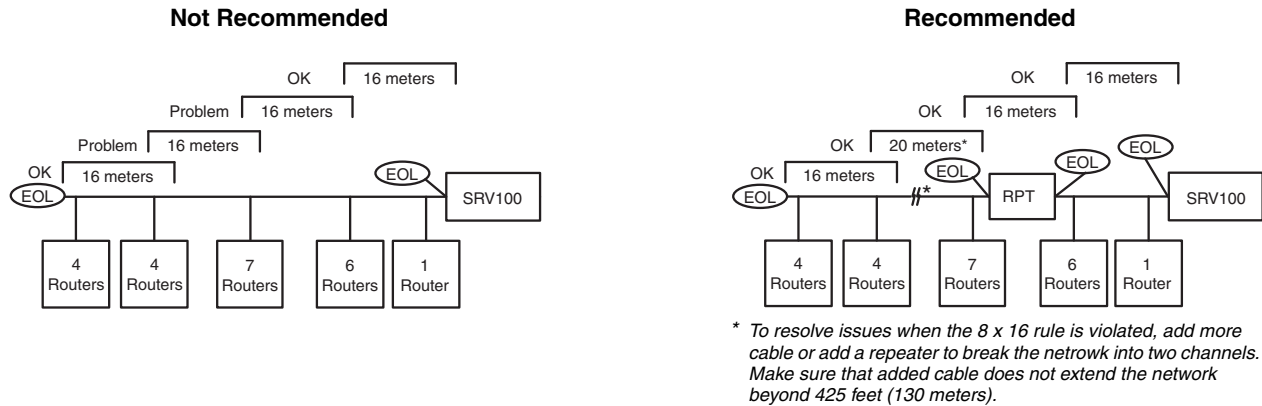

Figure 5
- Verify that the number of routers and repeaters connected to the TP1250 network does not exceed 8 devices within a cable 52 feet (16 meters) in length (refer to Figure 5).